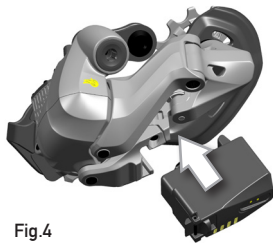

Fig.4
- Insert the battery into the rear derailleur by sliding it from the bottom to the top (Fig.4).